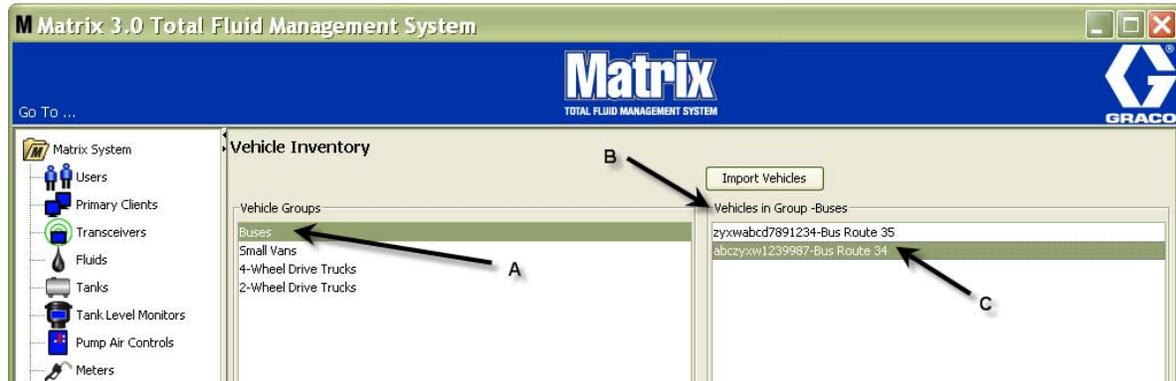
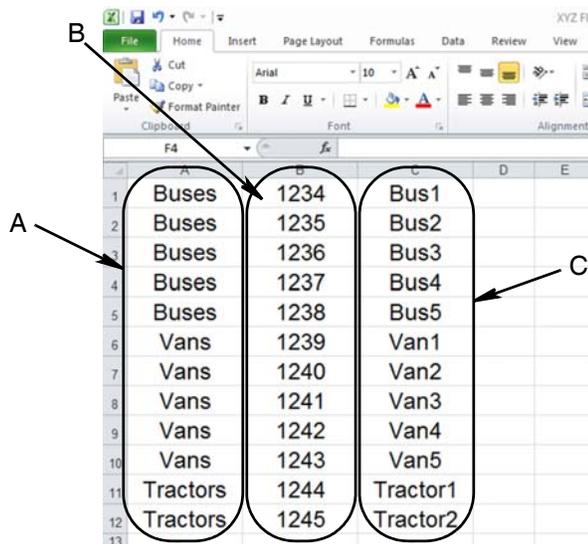

FIG. 173
FIG. 176
7. The vehicles will only be displayed on the main Vehicle Inventory Screen when the specific group it is associated with is highlighted. In the example provided in FIG. 173 the Vehicle Group Buses is highlighted (A). Notice that the Group Name “Buses” has been added at the end of the Vehicles in Group column title (B) and the list displayed in that column only contains the Buses that are in the fleet (C)
Sections A, B, and C in FIG. 176 correspond to Sections A, B, and C in FIG. 173.